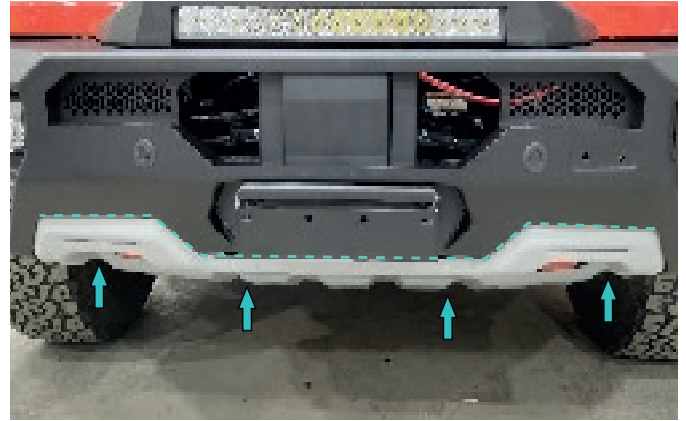

Fig.74
69. Align the edge of bash plate with the lower edge of bumper as shown in fig 74.